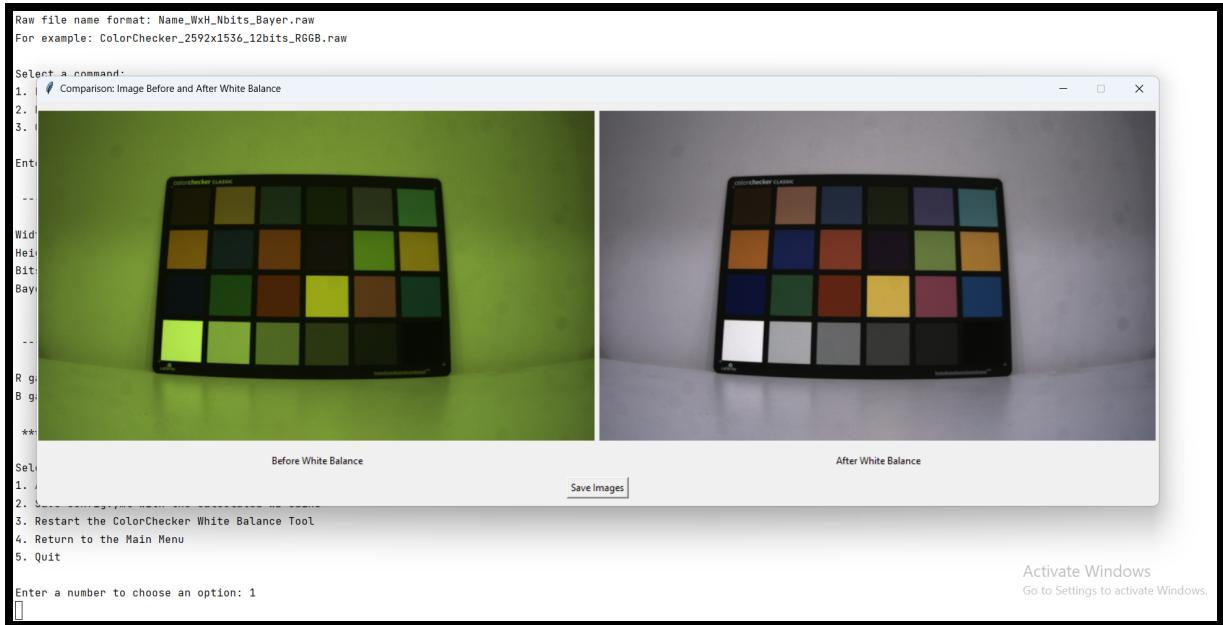

Figure 12: Example of saving PNG data
3. Saving the data as a PNG image also through the save images button present on the respective panel. Example is shown Figure 12.